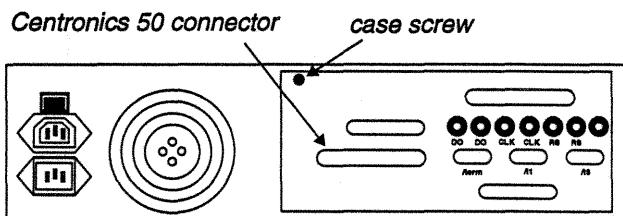

Figure 5 Rear view of OptImage emulator
5. Locate the Centronics 50 connector on the rear of the emulator as shown in Figure 5..
6. Locate the 50-wire ribbon cable in the interior of the emulator that connects to the Centronics 50 connector shown in Figure 5..